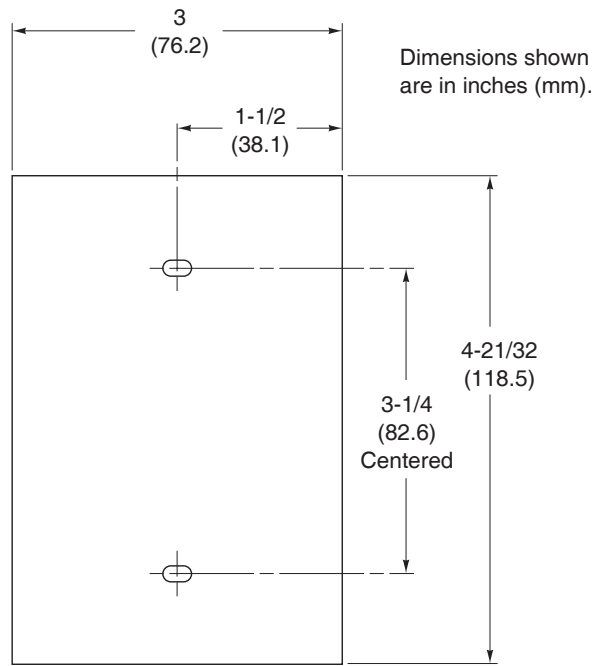
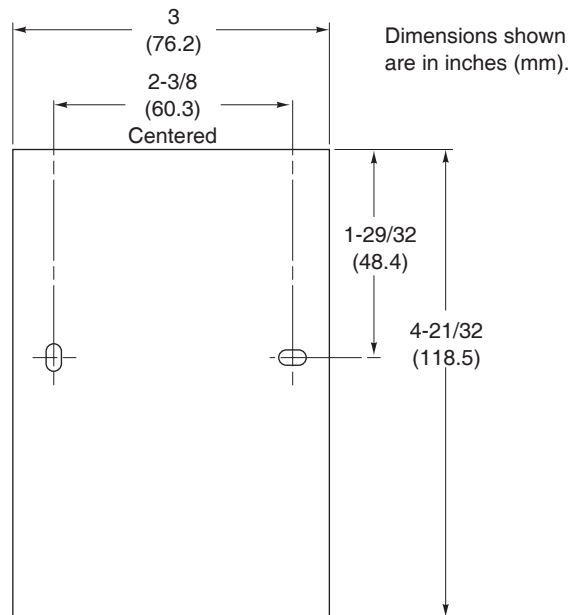

Figure-1 Mounting Dimensions for Direct-wall, 2 x 4 Electrical Box, and Surface Box Mounting.
Figure-2 Mounting Dimensions for 1/4 DIN Electrical Box Mounting.
sLON-WTS Sensors can be direct-wall, 2 x 4 electrical box, 1/4 DIN electrical box, or surface box mounted. See Figure-1 and Figure-2 for appropriate mounting dimensions.
1. Use mounting dimensions shown in Figure-1.
1. Use mounting dimensions shown in Figure-2.